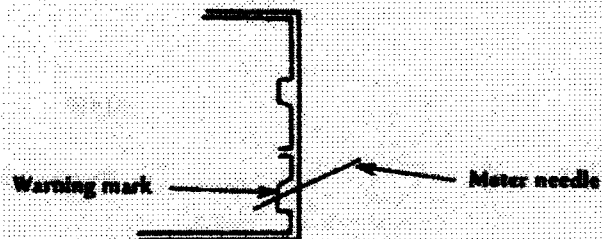

Fig. 26
2) At 1/4sec, ASA100, the needle of Meter Unit (18-0455) should be in the lower Warning Mark. See Fig. 26.